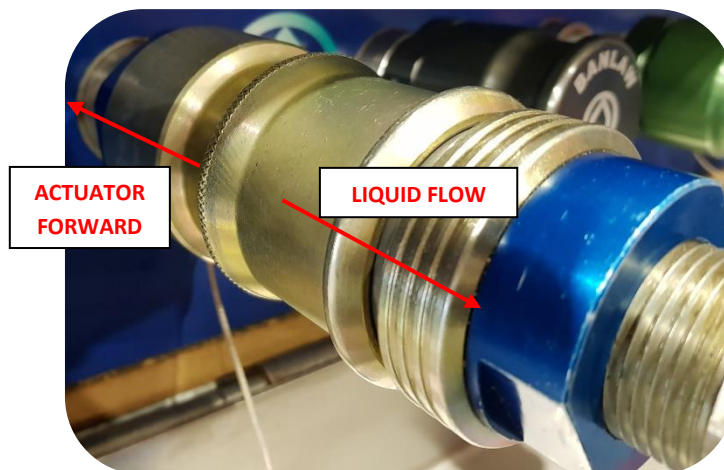

Figure 9 - Coupling and Receiver Connected
- Once fully engaged with the Receiver, release the Actuator and allow it to return forward under the action of the spring. Push the Actuator to ensure it is fully forward – refer Figure 9 – to ensure the ball lock mechanism is engaged.